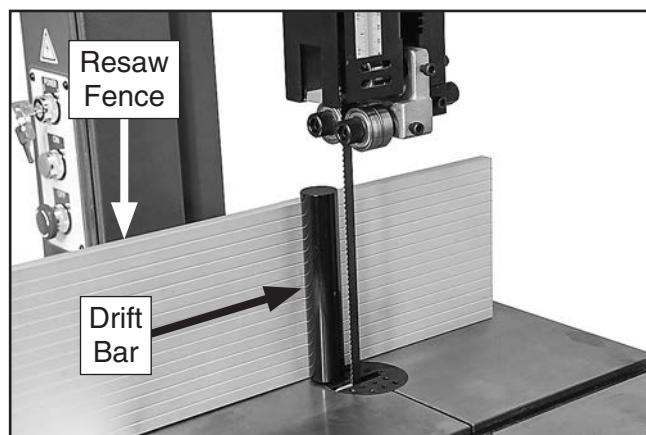

Figure 35. Drift bar installed on resaw fence.
27. Secure drift bar using adjustable handle (see **Figure 35**). Make sure drift bar is flat against resaw fence and is straight up and down.